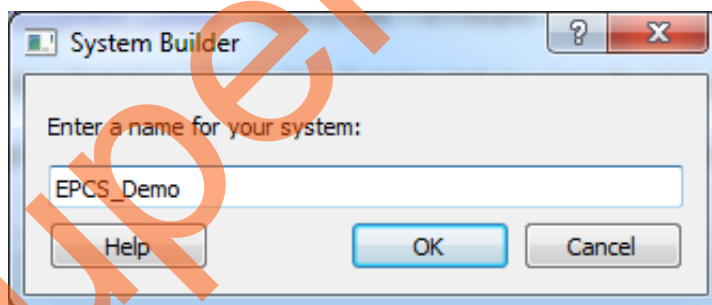

Figure 20 • System Builder Name
9. On the **New Project** window, click **OK**. The **System Builder** dialog box is displayed, as shown in Figure 20.